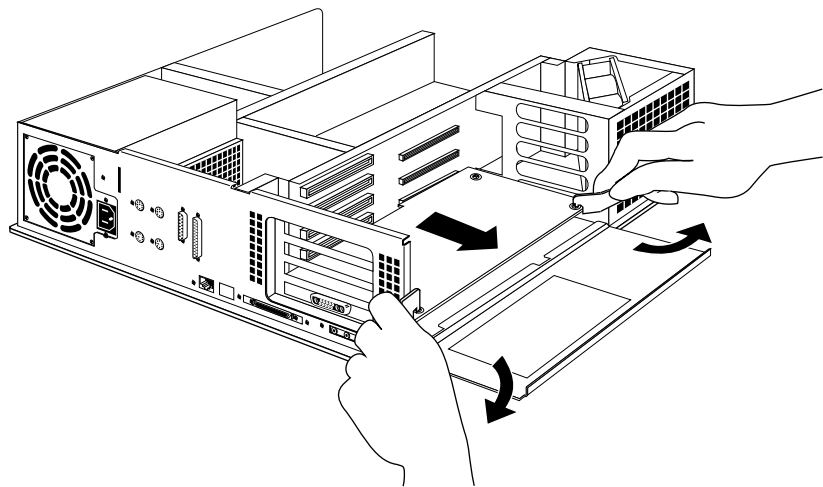

Figure 2-9 Removing XL graphics
- Hook the ends of the wrenches in the small holes on each side of the board, as shown in Figure 2-9.